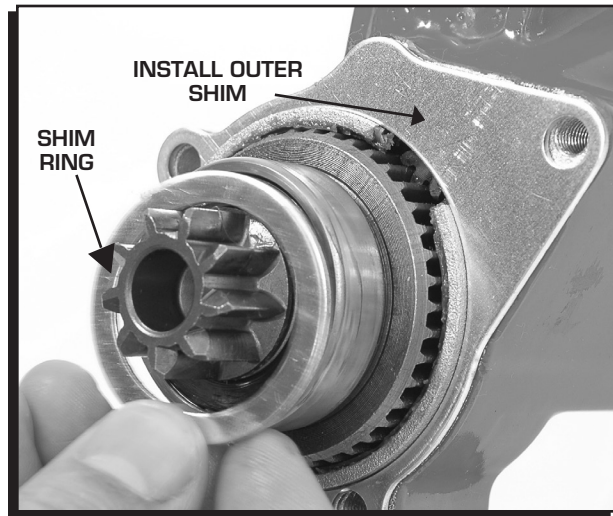

Figure 3 Installing the Pinion Shim Spacers.
- **If there is not enough clearance**, you will need to install the supplied shim kit by removing the mounting block (Figure 3). Place the small shim ring in the bearing bore and install the outer shim on the support housing. Reinstall the mounting block. This will move the pinion gear into the starter approximately  $0.060"$ .